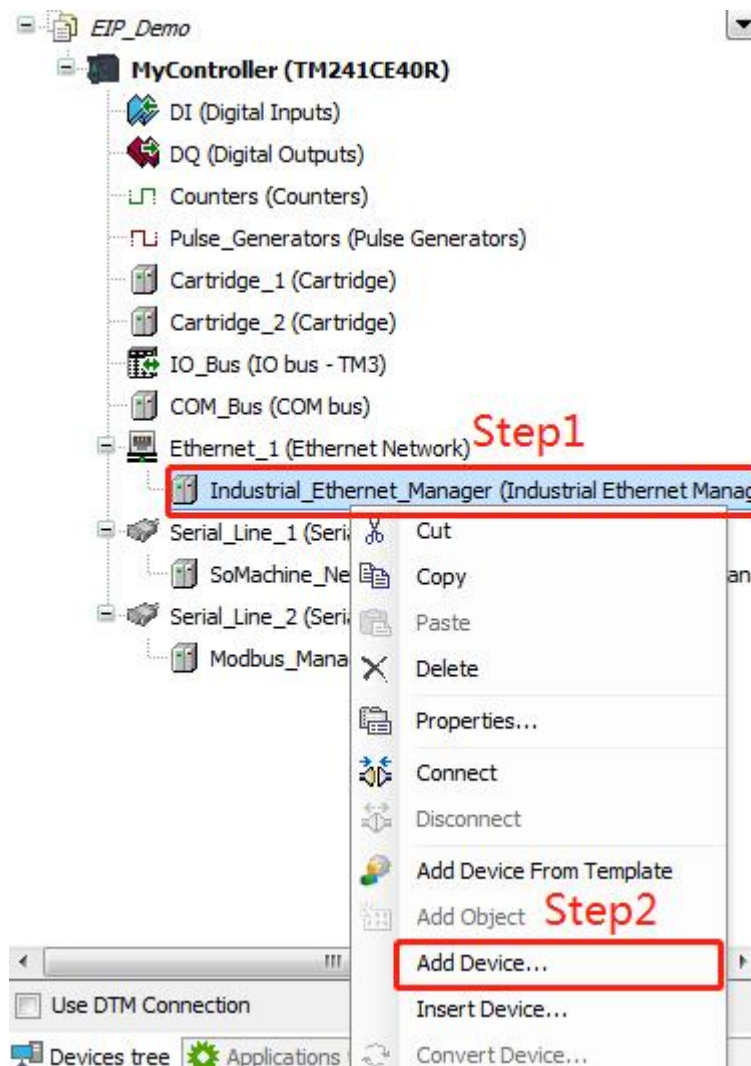

Figure 5-3-10
- As shown in Figure 5-3-10, right-click “Industrial Ethernet Manager” and click Add Device.